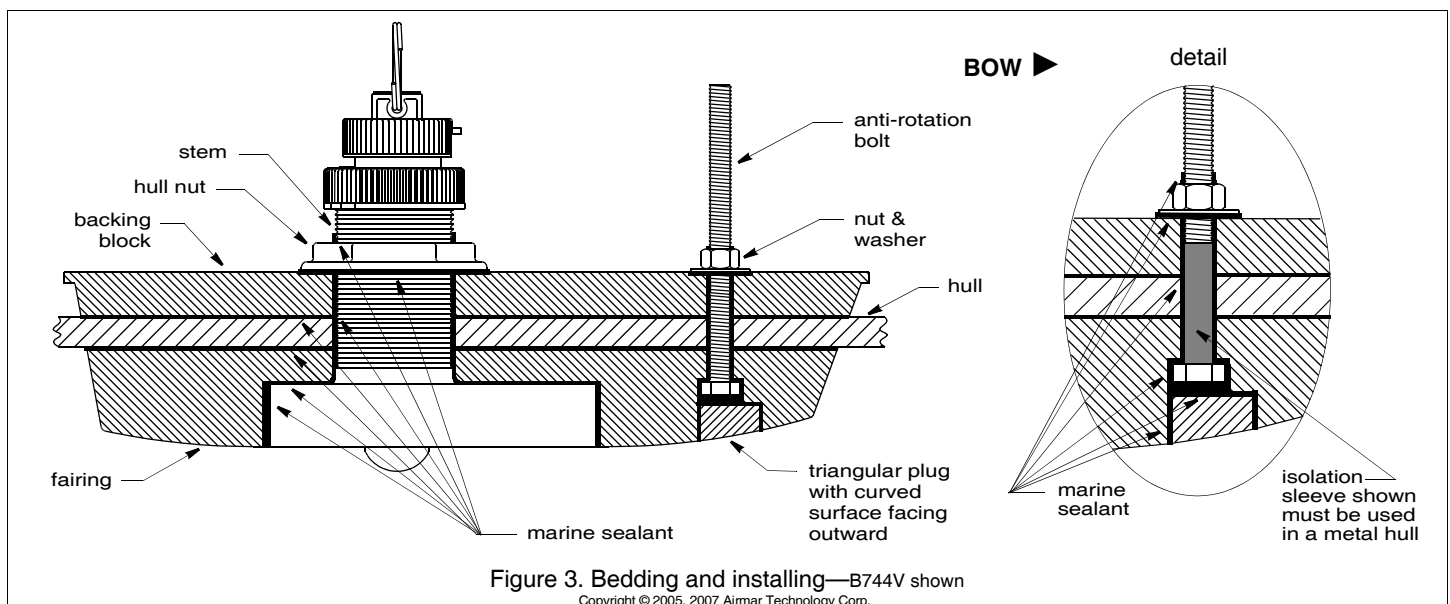

Figure 3. Bedding and installing—B744V shown
1. Dry fit the transducer in the fairing. Thread the cable through the large hole in the fairing and through the mounting hole in the hull. Seat the transducer firmly within the recess in the fairing (see Figure 3).
- Apply a 2mm (1/16") thick layer of marine sealant to the surface of the transducer that will contact the fairing and up the stem. The sealant must extend 6mm (1/4") higher than the combined thickness of the fairing, hull, backing block, and hull nut (see Figure 3). This will ensure there is marine sealant in the threads to seal the hull and hold the hull nut securely in place.
- From outside the hull, thread the transducer cable through the mounting hole. Push the stem of the transducer (with the fairing in place) into the mounting hole using a twisting motion to squeeze out excess sealant (see Figure 3).
- Apply a 2mm (1/16") thick layer of marine sealant to the anti-rotation bolt *including the flange* (see Figure 3). The sealant must be 6mm (1/4") higher than the combined thickness of the fairing, hull, backing block, washer, and nut. This will ensure that there is marine sealant on the threads to seal the hull and hold the nut securely in place.